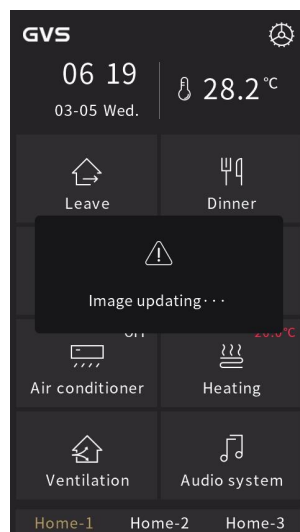
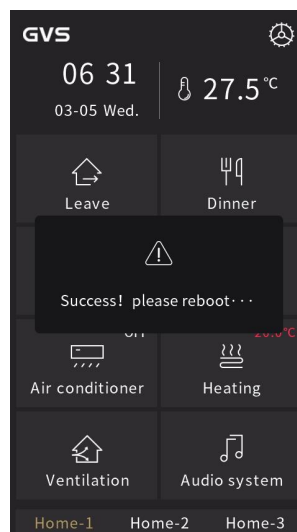
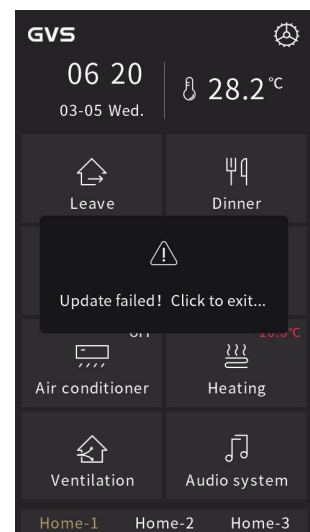
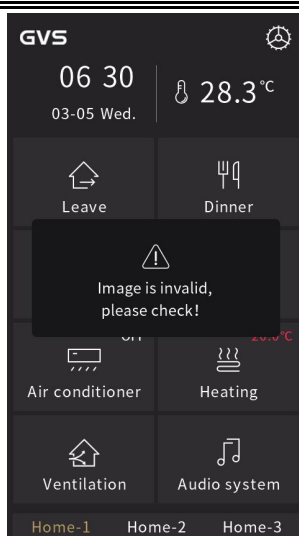

Fig.4.2
Fig.4.3
Fig.4.4
Fig.4.5
② Update pictures: when there is a folder named "Functionicon" in the Micro SD card, and there is a picture in accordance with valid name and format, then it will update and store (even if the picture is the same as the last saved).
3. Click "Confirm" to update picture; after upgrade, there will pop up a window of the result, if upgrade is successful, then reboot the device manually to apply the new function icons to the system; if upgrade is failed, click any area outside the window to return to the page, as shown in Fig.4.2, Fig.4.3, Fig.4.4 and Fig.4.5.
Note: when upgrading, if the single picture is larger than the remaining storage space of the device (the total size of the device picture storage disc is about 15 MB), the remaining valid pictures shall be stopped updating, upgrade is failed as shown as Fig.4.4.